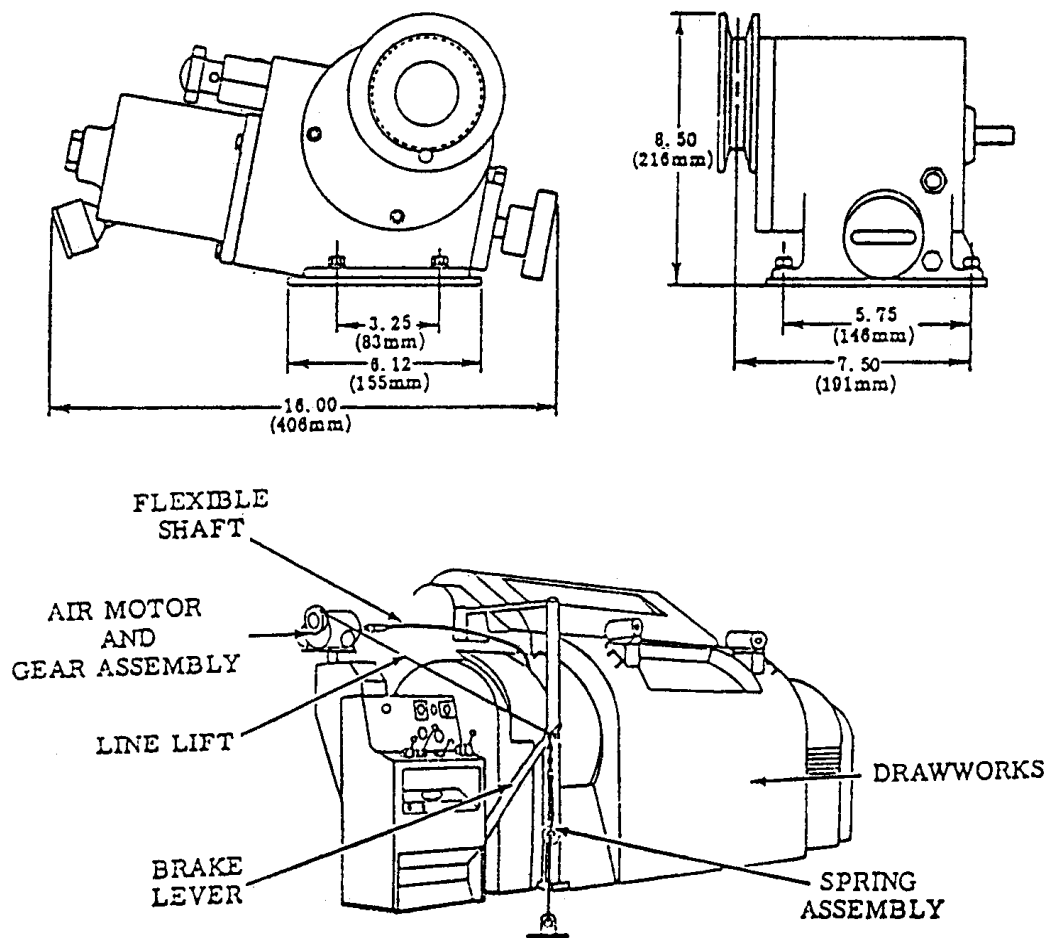

Figure 3-3
3.05 Air Motor and Differential Gear Assembly Installation: Locate the air motor and differential gear assembly on the top cover of the drum guard so that the flexible shaft has a smooth curve and the lift line reel has a straight pull on the brake lever. The gear assembly must be mounted level, fabricate a bracket as necessary to attain level mounting. Refer to Figure 3-3 for overall mounting dimensions.